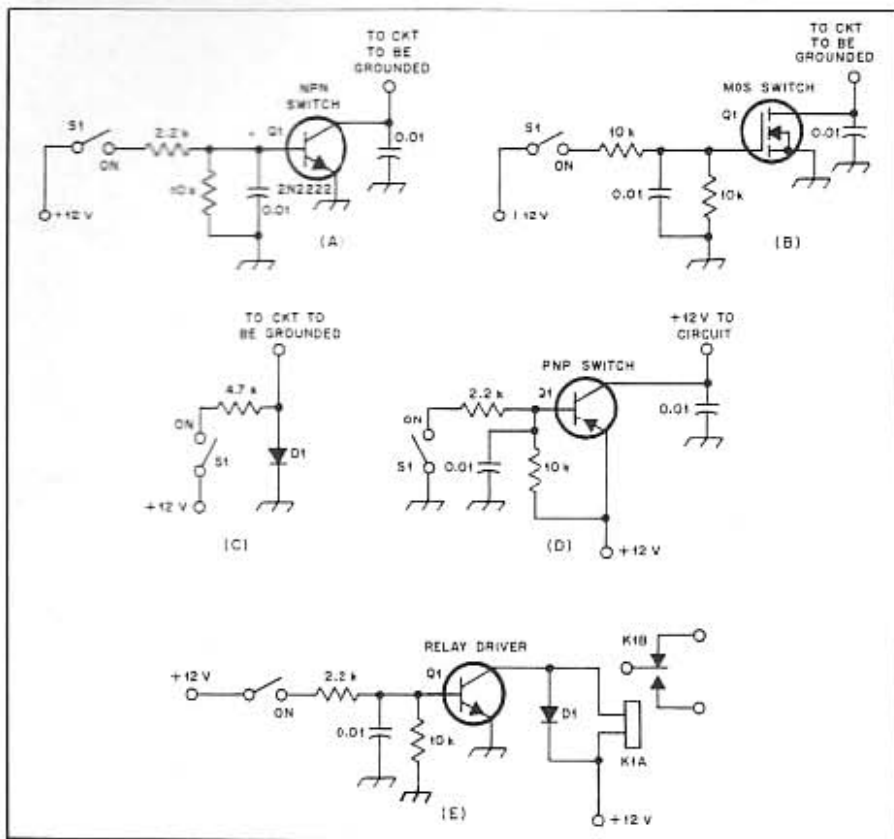

Fig. 4 — Various semiconductor switches (see text).
Our workshop project this month is shown schematically in Fig. 4. It is patterned along the lines of a broadband amplifier designed by Hayward, W7ZOI. His design did not use transformers and there was no high-level stage at the tail end of the amplifier strip, but the feedback networks are similar to his. The particulars of the general design are given in the text of *Solid State Design for the Radio Amateur*, referenced earlier in this article.
Owing to the linearity and bandwidth of the circuit in Fig. 4, it is ideal as a drop-in
A broadband amplifier can be built for Class A, B or C service, just as narrow-band amplifiers can. The advantage of broadband designs is, in retrospect, to obtain a wide frequency response with relatively flat gain. This helps us to design circuits that do not require band-switching provisions. In other words, it simplifies the design of a multiband transmitter. But, as an instrumentation amplifier, the circuit of Fig. 4 has a great many advantages around the workshop. Good luck with your project.
Fig. 4 contains a number of examples that show how we may use various semiconductor devices as shunt switches. S1 in each case represents a mechanical switch or CW key that turns on the electronic switch. As we learned earlier, turn-on can be effected also by other electronic switches in the overall circuit. For example, AGC voltage or rectified speech energy could be used to actuate a semiconductor switch, depending on the application for the switch; the possibilities are virtually without limit.
Circuit A of Fig. 4 is an NPN transistor switch. A positive voltage is required at the base of Q1 in order to turn it on. The 10-k $\Omega$  resistor from the base to ground is used to minimize transistor leakage current when the switch is in the OFF mode. This circuit might be used to key a driver stage in a solid-state CW transmitter. If so, the collector of Q1 would be hooked to the emitter of the keyed stage. S1 would be the CW key, or the keying line from a keyer.
A simple diode switch is shown at C of Fig. 4. To the right is a PNP transistor switch (D). The base must be grounded through the 2.2-k $\Omega$  resistor to cause turn-on. A 10-k $\Omega$  resistor is connected from base to the +12-V line to help cut off the transistor in the OFF mode. This resistor can be eliminated in the circuits of Fig. 4A, 4D and 4E if two 1N914 diodes are connected in series with the emitter leads. The diode junctions will reverse bias the transistors by approximately 1.4 V. The resistor or biasing diodes are especially important in the circuit of Fig. 4E — a relay driver. Without reverse bias, the relay may remain energized after the transistor is turned off. This is because a small amount of leakage or idling current will remain, and it may